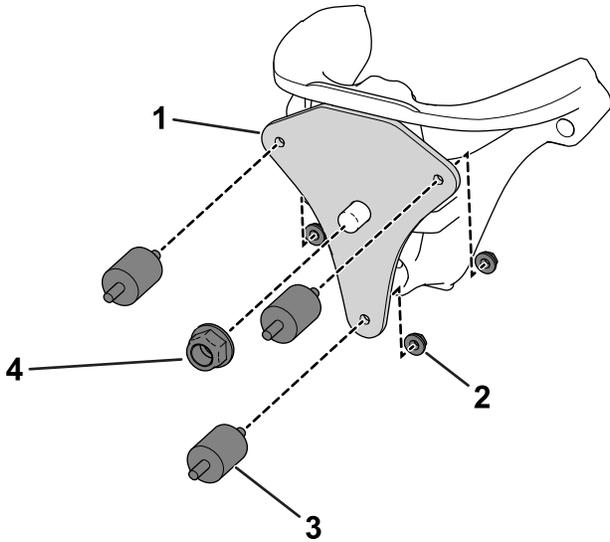

Figure 5
- Use a nut (5/8 inch) to secure the mount plate to the steering head (Figure 5).
- Secure 3 rubber damper mounts to the mount plate with 3 nuts (5/16 inch) as shown in Figure 5.